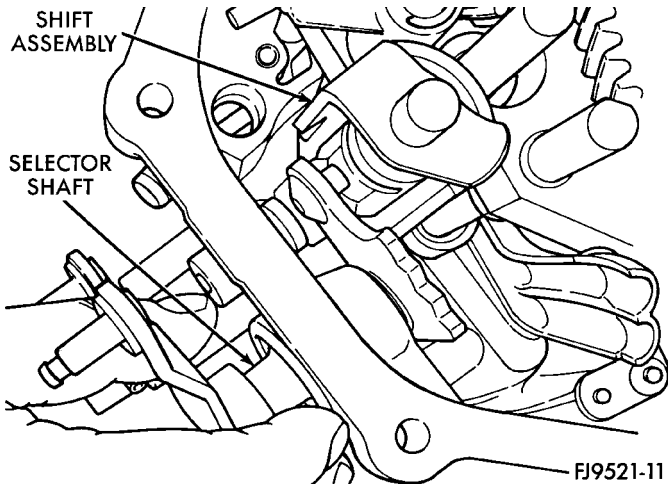

Fig. 70 Selector Shaft
(15) Install gear case in a holding fixture with end cover facing down.
(16) Turn selector shaft into slot on blocker assembly (Fig. 70).